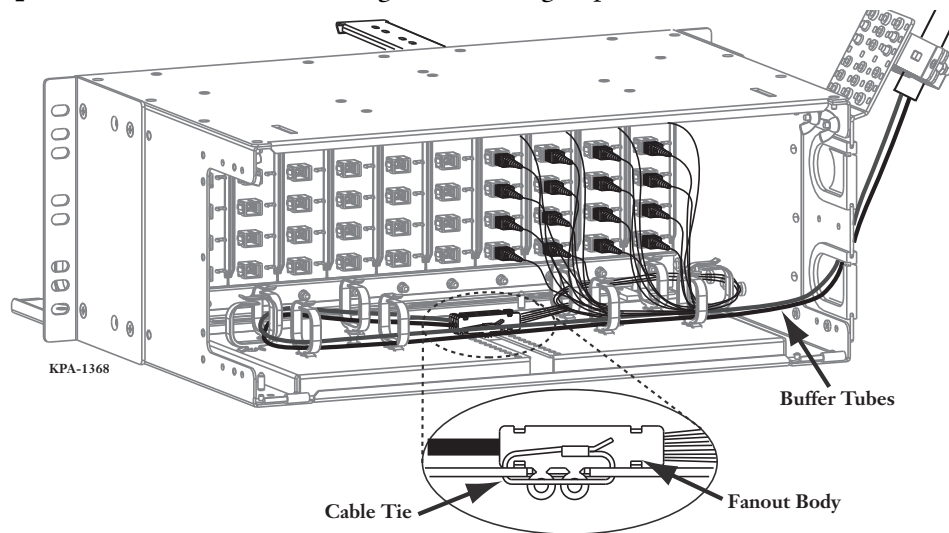

Figure 10 — Fanout Installation and Cable Routing
- Step 2:** Feed the fanout body and connectors through the entry grommet (Figure 10).
- Step 3:** Slide the fanout body into the cut-out in the fiber shelf with the rings on the fanout body beneath the shelf. Secure fanout with a cable tie (Figure 10 inset).